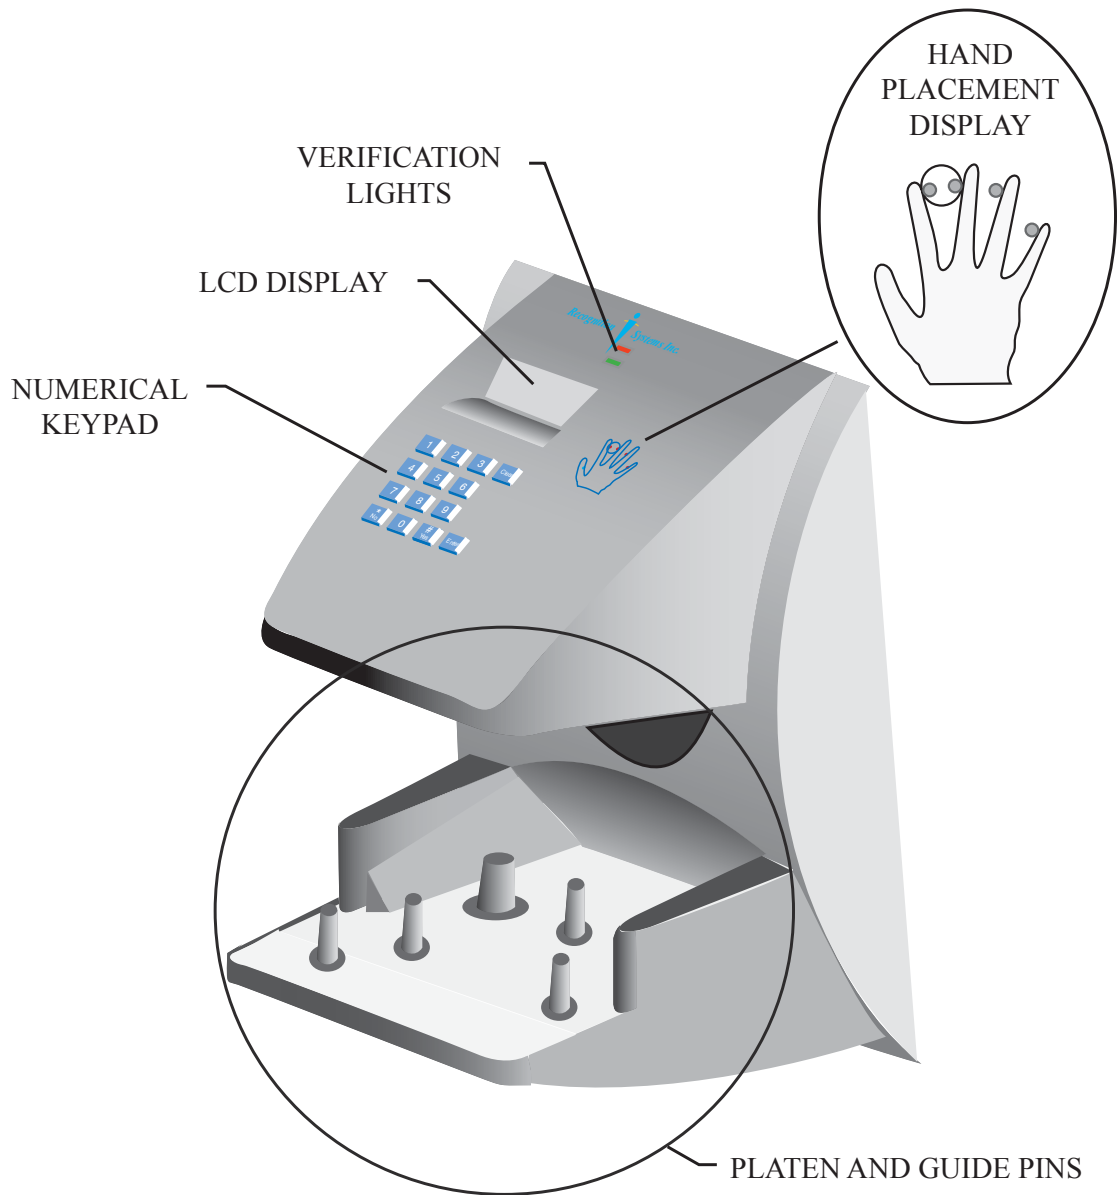

Figure 1-1: The HandPunch 1000
The HandPunch is a time and attendance terminal designed for use with time and attendance software. Refer to Figure 1-1 on page 7 when reviewing the information in this section.
The HandPunch has an integrated keypad for ID entry (see Figure 1-1). The **CLEAR** and **ENTER** keys are used for data entry and programming.
1. The Platen is the flat surface at the base of the HandPunch (see Figure 1-1). This is where users place their hands for enrollment and verification. It has guide pins to assist positioning the fingers during use.